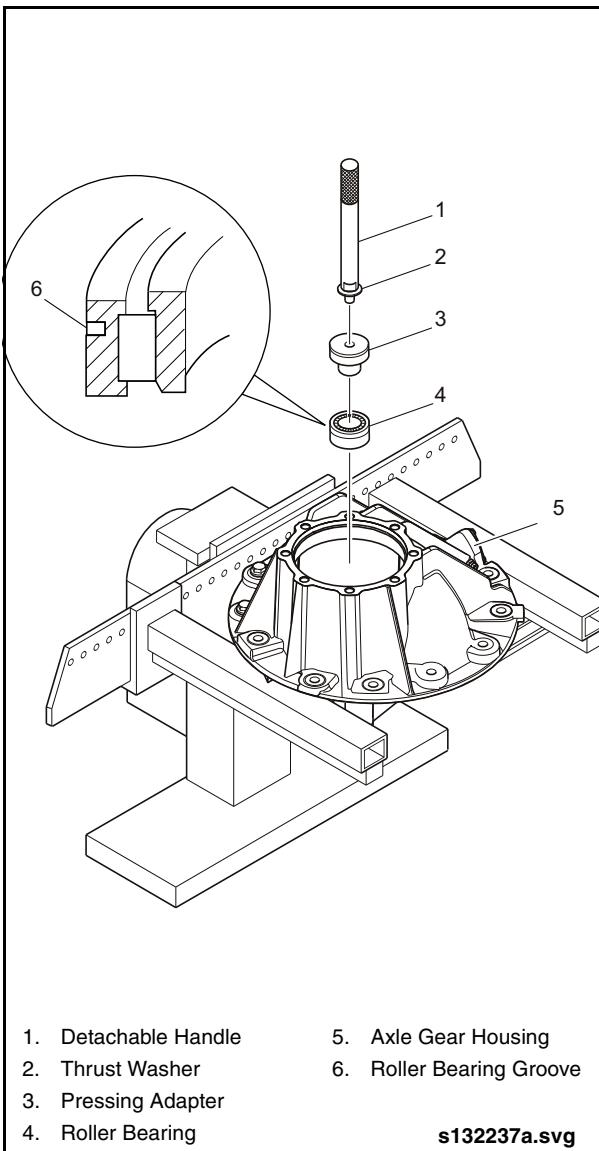

Fig. 2-79: Installing Roller Bearing
2. Press roller bearing into axle gear housing until stop is reached. Ensure roller bearing groove is facing up. See "Fig. 2-79: Installing Roller Bearing" on page 67.